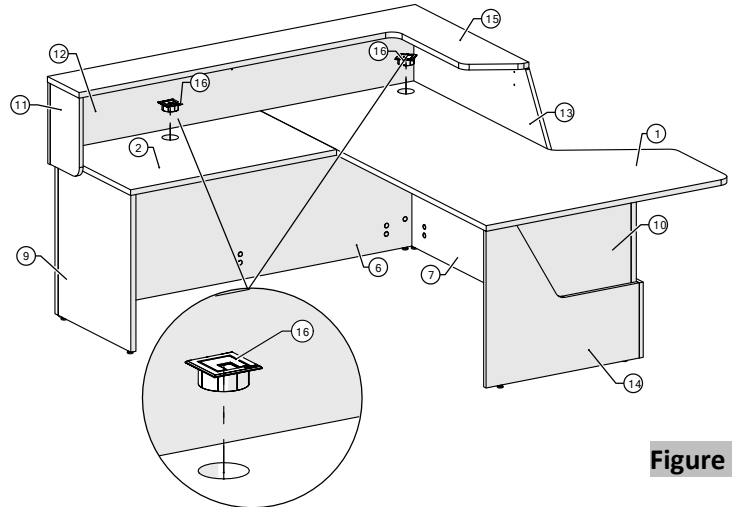

Figure 30
35. Insert the grommets into the grommet holes, (Figure 30).